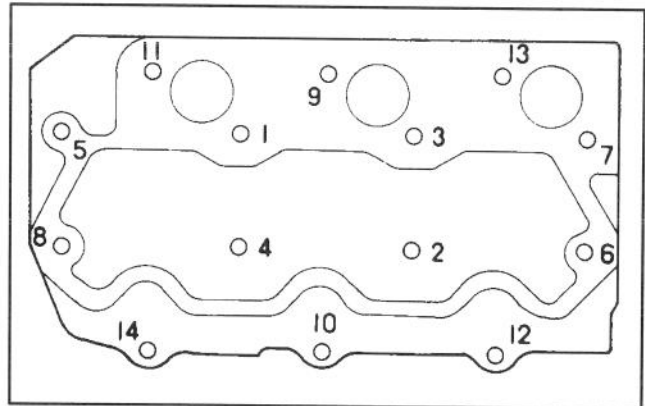

Figure 43
2. Using sequence in figure 43, torque head bolts to 36 to 38 ft/lb.